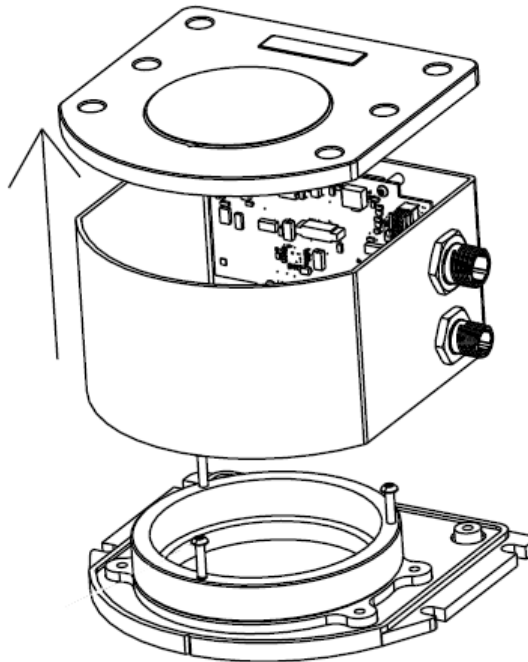

Figure 25: Lift Top Cover, Tube Body and 3 Ring Spacer Screws
3. Lift the top cover off the tube body and set it aside, see *Figure 25* on page 137.
4. Lift the tube body away from its base plate and set it aside, see *Figure 25*.
5. Remove the 3 ring spacer screws and set aside, see *Figure 25*.